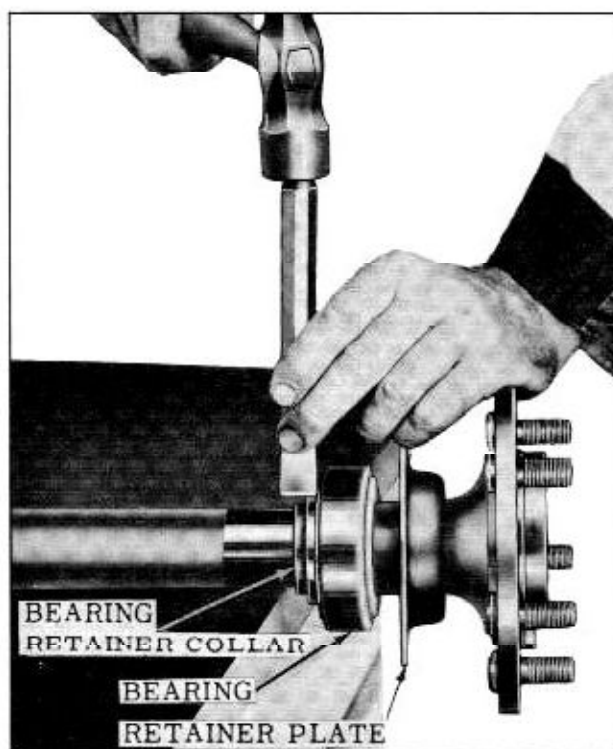

Fig. 5-24 Removing Bearing Retainer
1. With axle shaft removed, remove bearing retainer collar after splitting with cold chisel as shown in Fig. 5-24. Do not damage axle shaft.